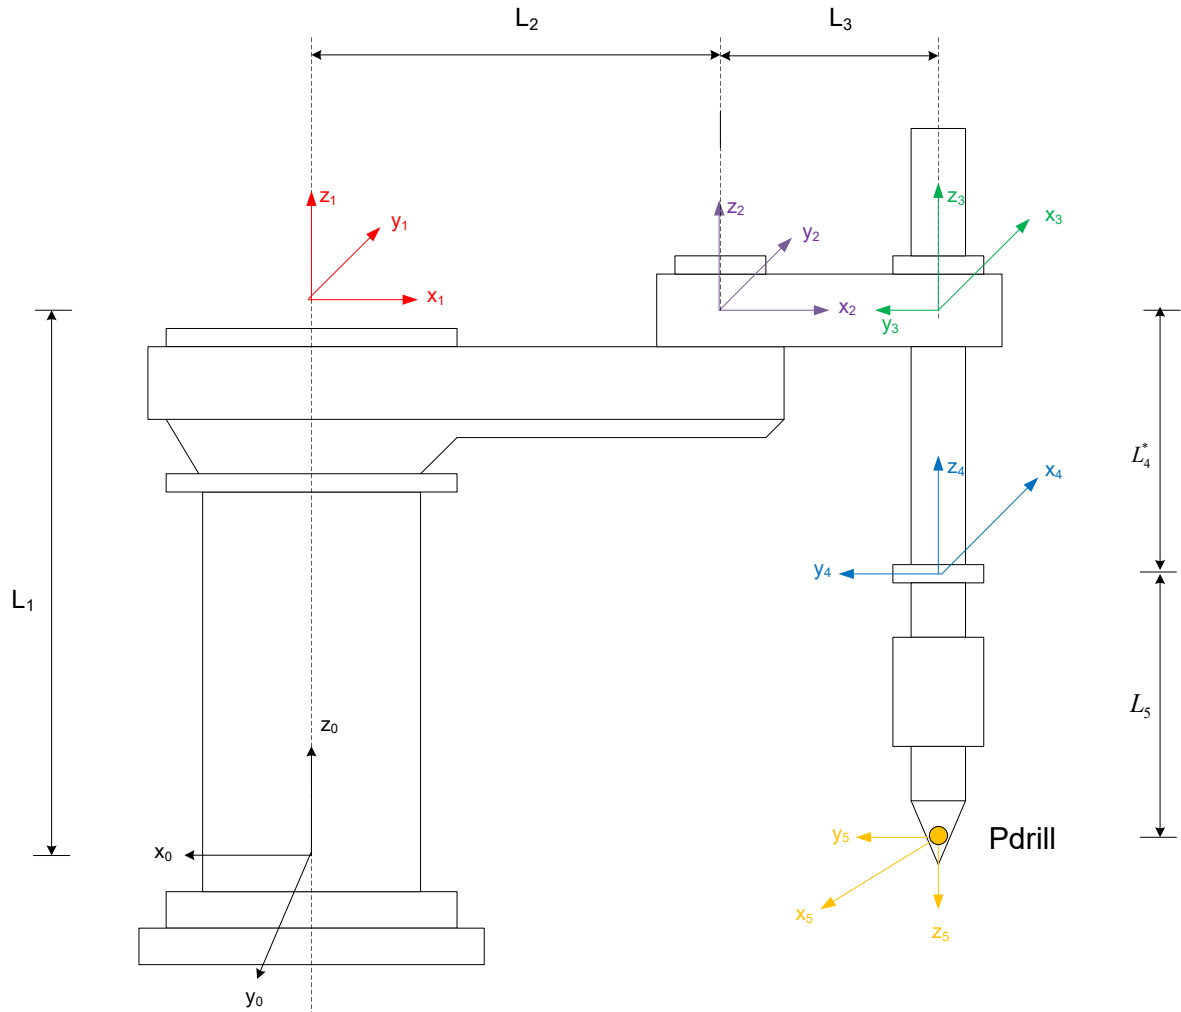

Figure 2.1: The VME robot.
2. (30 Minute). Consider the VME robot shown in Figure 2.1 below.